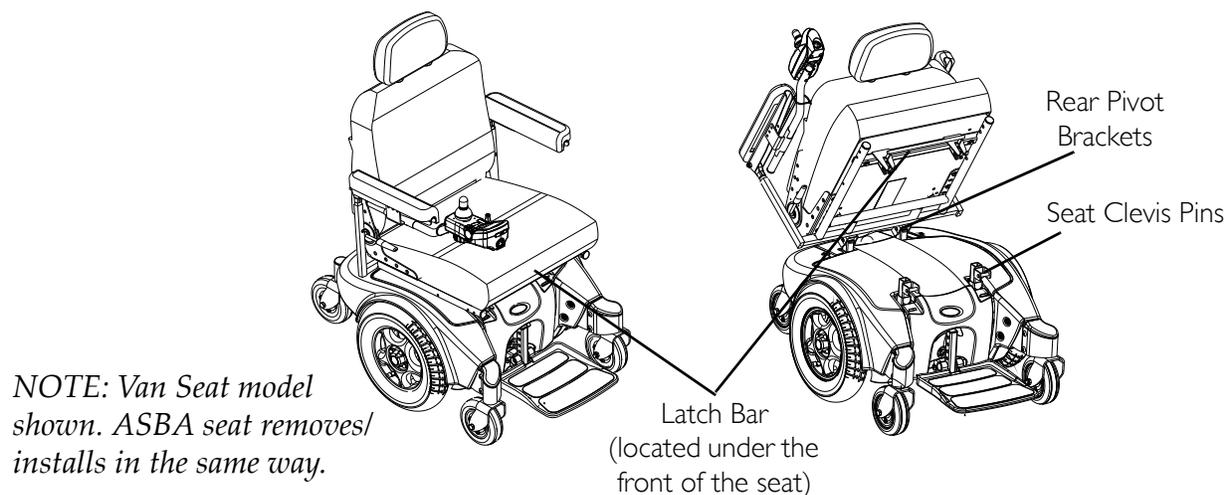

FIGURE 8.4 Removing/Installing the Seat Assembly
NOTE: For this procedure, refer to FIGURE 8.4.
1. Position the seat in the rear pivot brackets as shown in FIGURE 8.4.